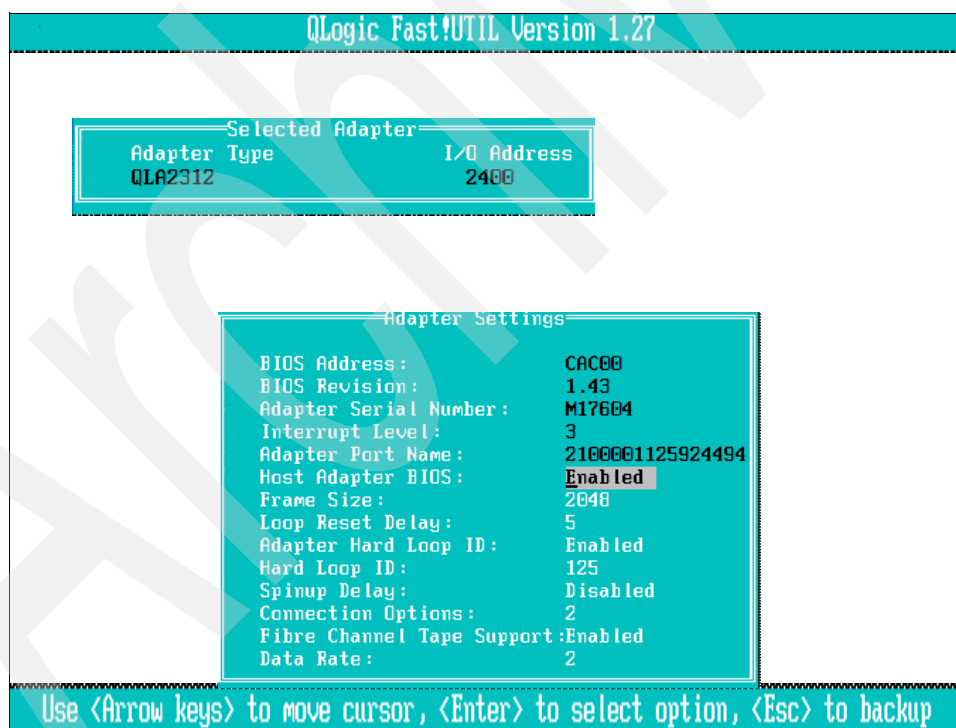

Figure 5-13 Enable boot device
- b. Ensure that the BIOS for the adapter is still set to enabled (Figure 5-13).